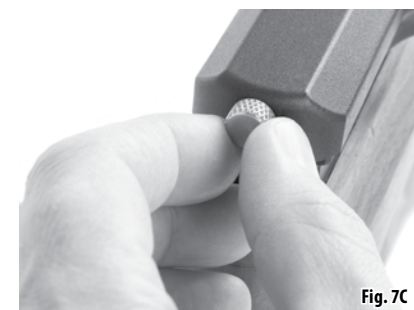

Fig. 7C
4. Loosen the knob on the back by turning counter-clockwise (Fig. 7C).